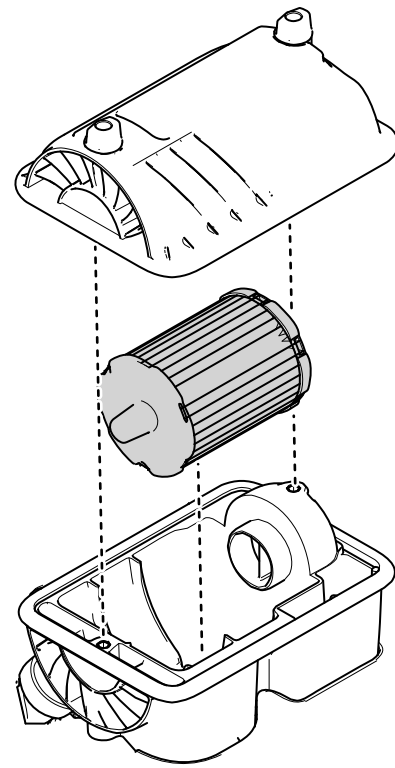

Figure 28
1. Gently slide the air-cleaner element out of the air-cleaner body (Figure 28).
4. Install the air-cleaner cover (Figure 28).